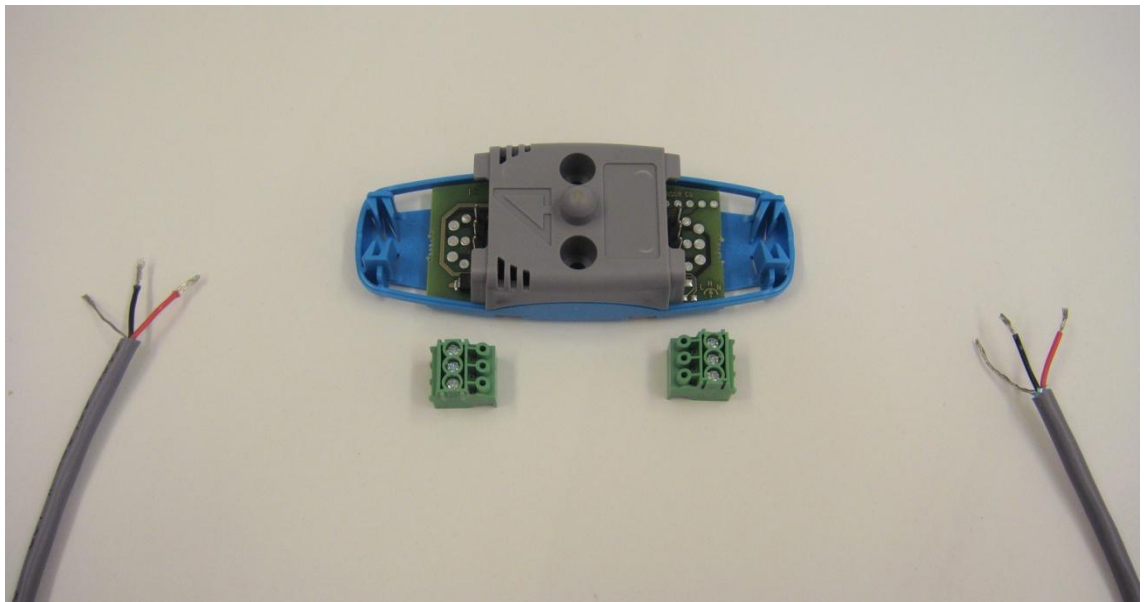

Figure 4.6
1) Open the sensor side-covers, then detach the pluggable connectors from the sensor PCB, and prepare the twisted shielded pair cable connecting. (See Figure 4.6)